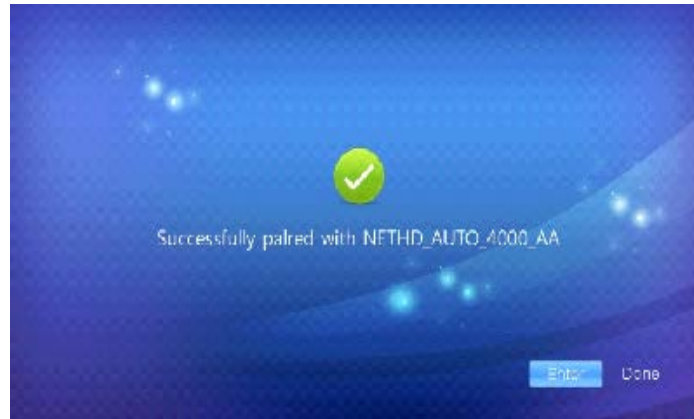

FIGURE 7
- 2) Press the Pairing button on the transmitter. After a few seconds, a confirmation screen, denoting that pairing was successful, will be displayed (FIGURE 7):